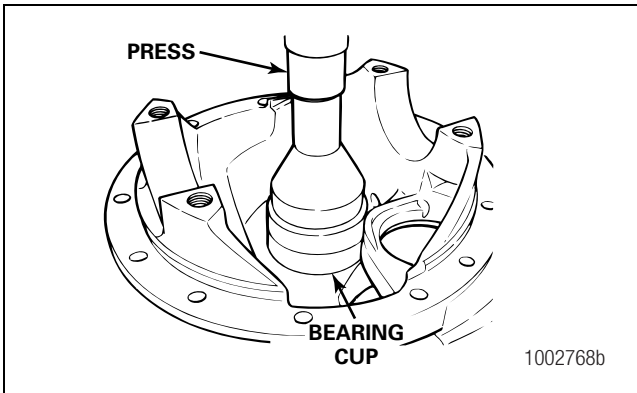

Figure 5.7
- E. Place a sleeve or a bearing driver tool onto the cup and press the cup into the bore until the bottom of the cup touches the shims. If a press is not available, use a sleeve, a brass drift or a bearing driver tool and a hammer to install the cup. Figure 5.7.